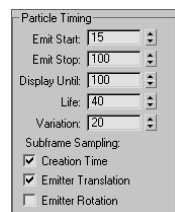

Figure 12.3
8. In the Particle Size area, change the Size value to 10 and then render one frame of the scene at some point after frame 30. The result should look similar to Figure 12.3.